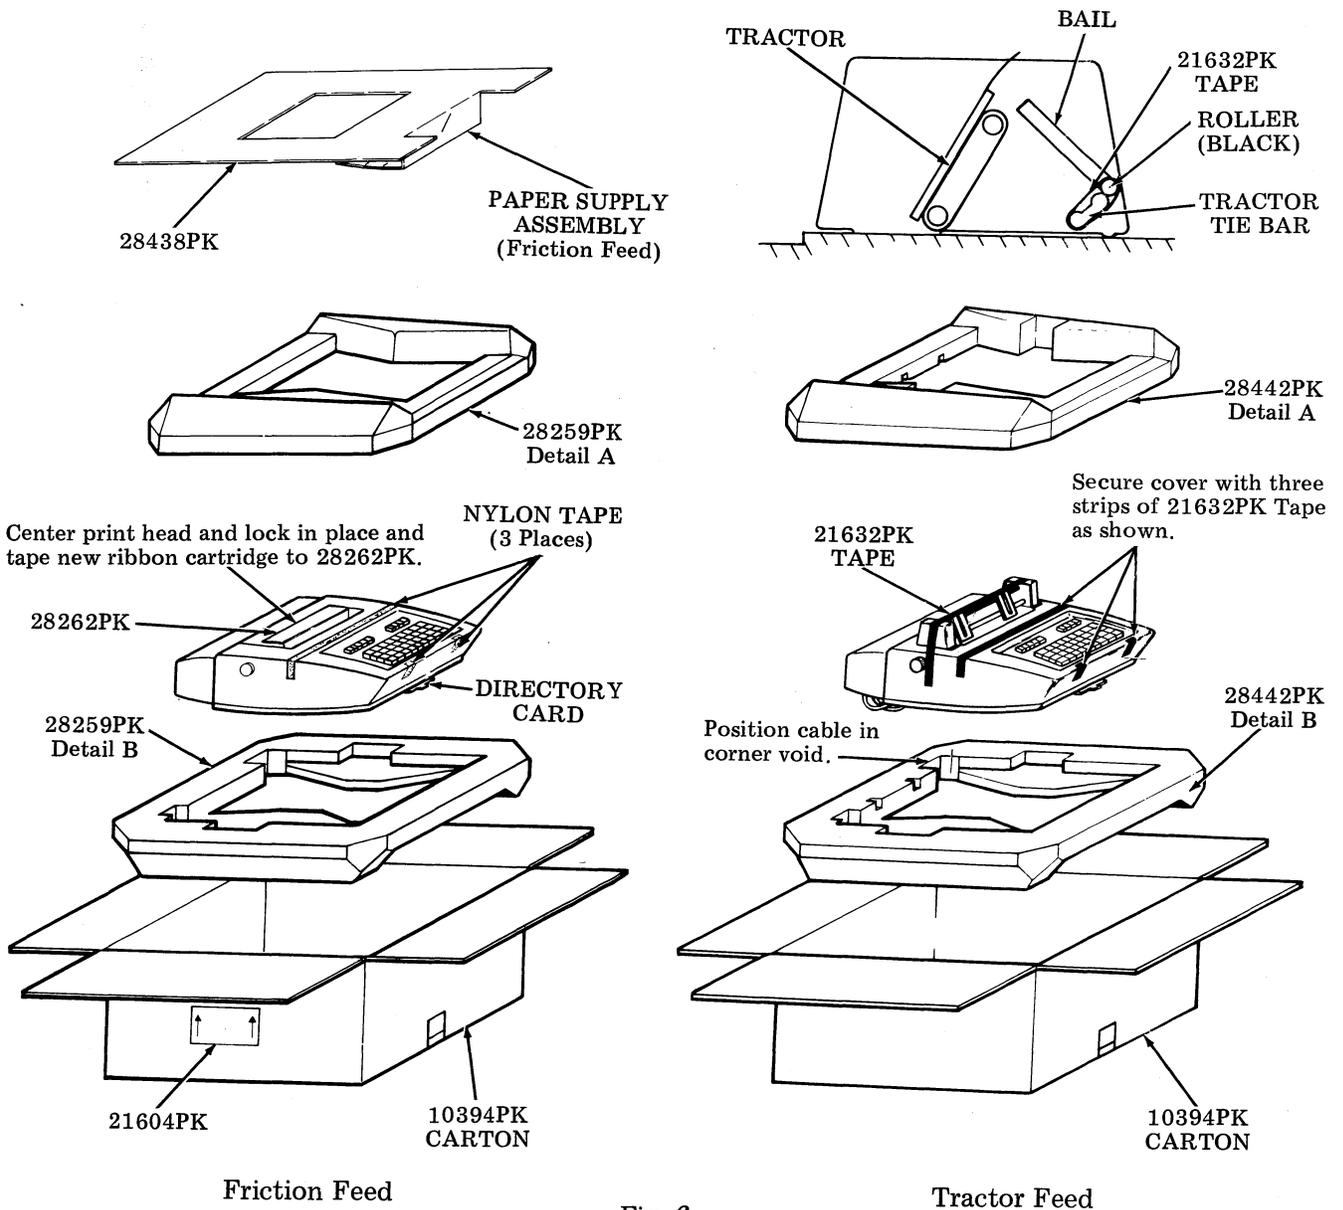

Fig. 6
4.03 Tape the units as shown in Fig. 6.
4.04 Using the proper containers and packing detail, pack the 43 teleprinter as shown in Fig. 6.